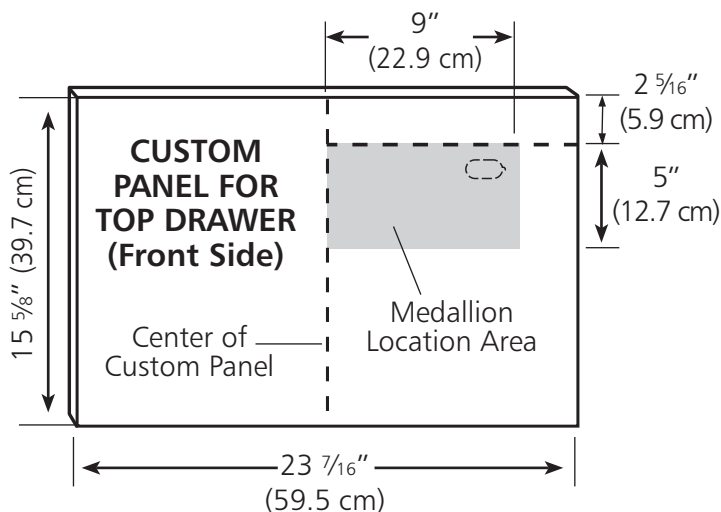

FIGURE 1A
1) Cut the top drawer custom door panel to size as shown (See figure 1A). The custom panels may be wider than the dishwasher in order to match the surrounding cabinets.
4) On the front side of the top drawer custom door panel, measure, mark and cut a hole for the medallion to size as shown (See figures 1A & 2).
NOTE: The medallion must be placed within the specified medallion area. Do not locate outside of this specified area (See figure 1A).